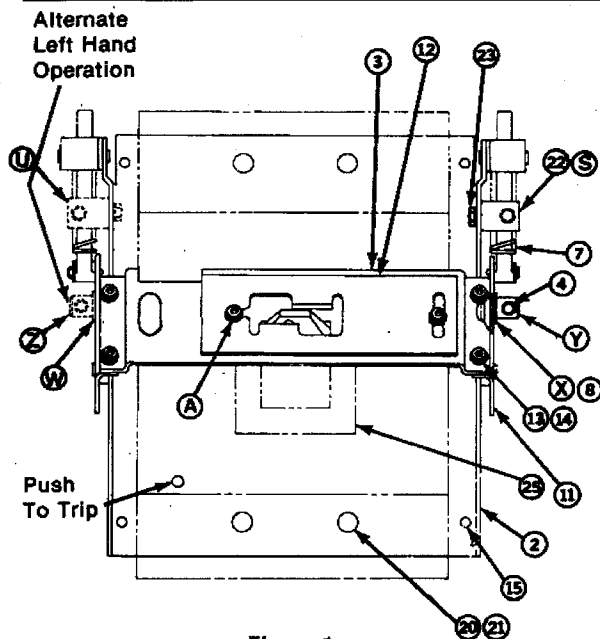

Figure 1
- Determine right or left hand operation. Operating Mechanism is assembled for right hand operation. Instructions for conversion from right hand to left hand operation are as follows: (Ref. Fig. 1).
- Mount stiffener bracket, Item 22, to Mounting Frame Assembly, Item 2, with (1) $1/4 - 20 \times 3/8$ screw, Item 23, in position S for right hand operation and in Position U for left hand operation.
- Secure Operating Mechanism Sub-assembly, Item 1, to mounting surface with screws, (4) $1/4 - 20 \times 1/2$ Item 15.
- With mechanism bail arm in ON position, remove bail arm, Item 3, which is held on by 4 screws, Item 13. (See Fig. 1). **CAUTION:** When moving mechanism keep hands free of mechanism during operation of device.
- Attach adhesive backed, vinyl mask, Item 25, over "ON-OFF" markings on circuit breaker. See Fig. 1.
- Remove Adjustment Plate, Item 12, from Bail Arm Assembly, Item 3. Position Bail Arm Assembly, Item 3, so the circuit breaker toggle slips through the center hole. Secure with (4) screws, Item 13, as shown in Fig. 1. Mount Adjustment Plate, Item 12, so it is free to pivot in LOWER pivot hole at point "A" with screw and washer, Items 13 and 14.